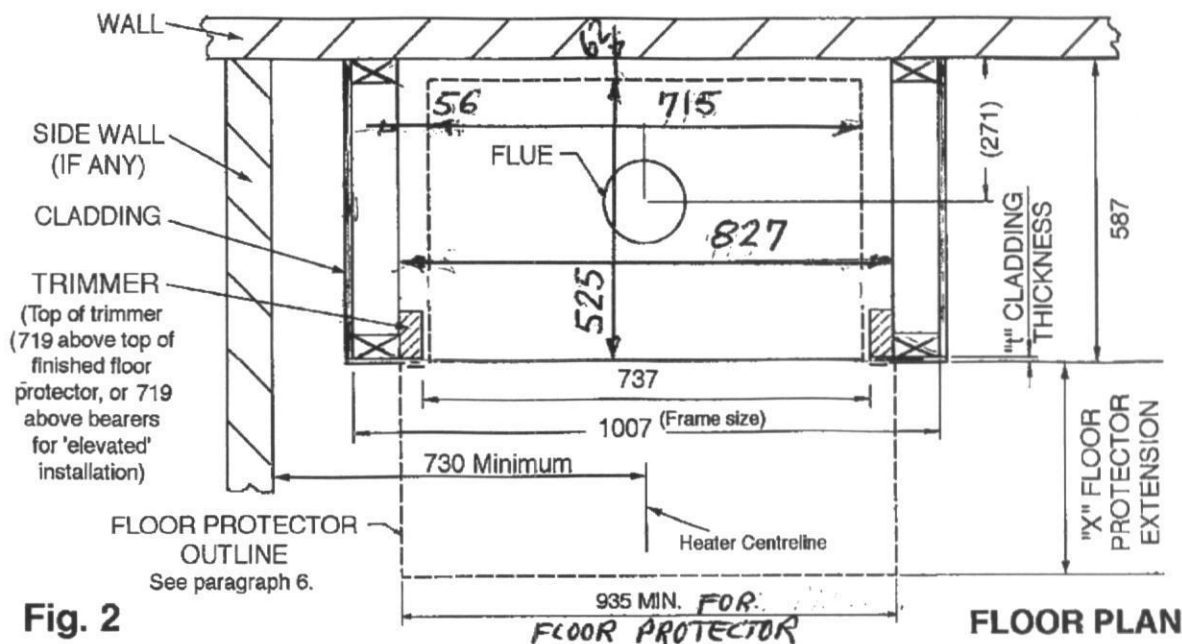

Fig. 2
1. Inspect the house construction at the proposed installation position to verify that the flue shield (250mm diameter, plus 25mm clearance all around) can pass right up through the ceiling space without requiring the removal of essential roof or ceiling support beams. The flue centreline will be 271 mm out from the rear wall and it must be at least 730mm distant from any side wall. (See Fig. 2).
6. For heat sensitive floors, construct a floor protector of the shape shown in the Floor Plan above (Fig. 2). (See SPECIAL CONSTRUCTIONS below for concrete floors). The standard floor protector is constructed of two layers of 6mm fibre cement board (such as Hardies Tile and Slate Underlay), topped with a layer of tiles or slate. This will give a thickness of approximately 20mm, and the extension from the face of the front cladding must be at least 412 mm. The floor protector must be at least 935 mm wide, but you may prefer to increase this size to match the fascia width (967 mm).